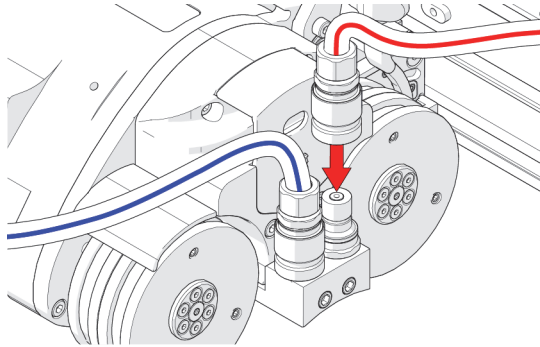

Figure 2-20 Quick connect fitting
Press the hose fitting onto the quick connect fitting to attach it (see Figure 2-20 on page 60)
1. Press the hose fittings onto the quick connect fittings of the crawler (see Figure 2-20 on page 60).